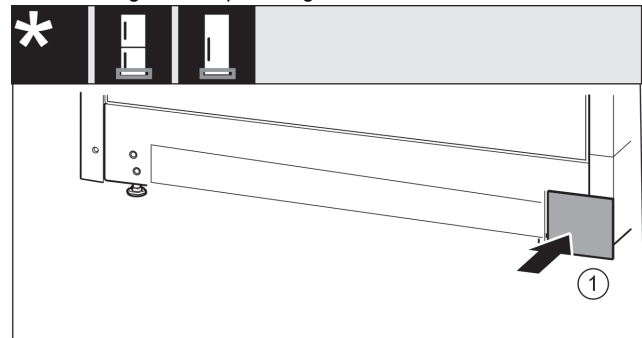

Fig. 21
- ▶ Re-attach the cover Fig. 21 (1) to the other side.